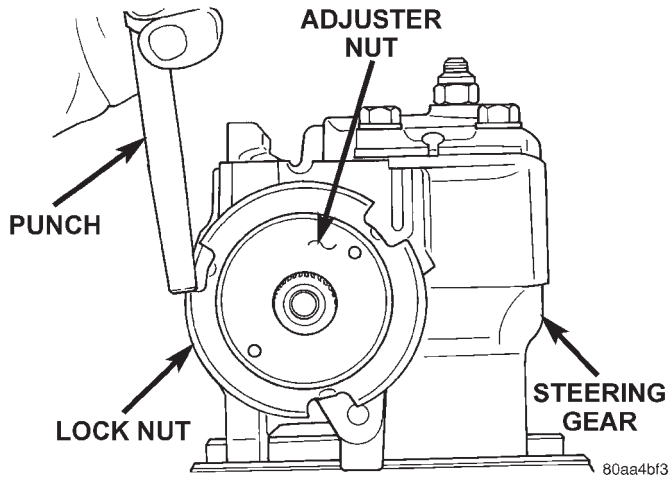
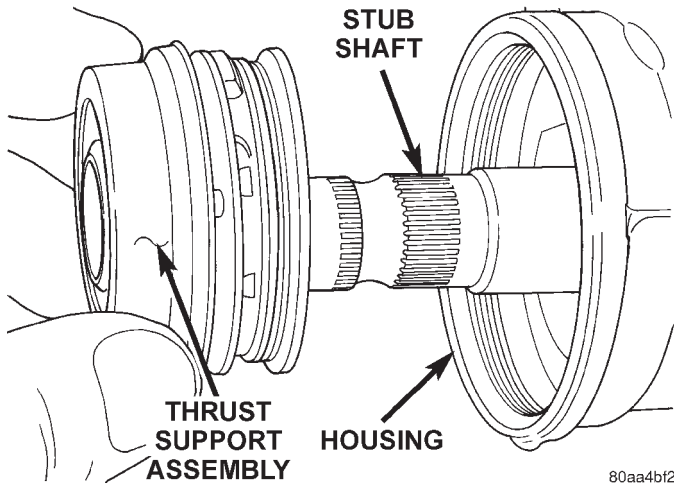

Fig. 11 Lock Nut and Adjuster Nut
Fig. 12 Thrust Support Assembly
- (1) Remove lock nut (Fig. 11).
- (2) Remove adjuster nut with Spanner Wrench C-4381.
- (3) Remove thrust support assembly out of the housing (Fig. 12).